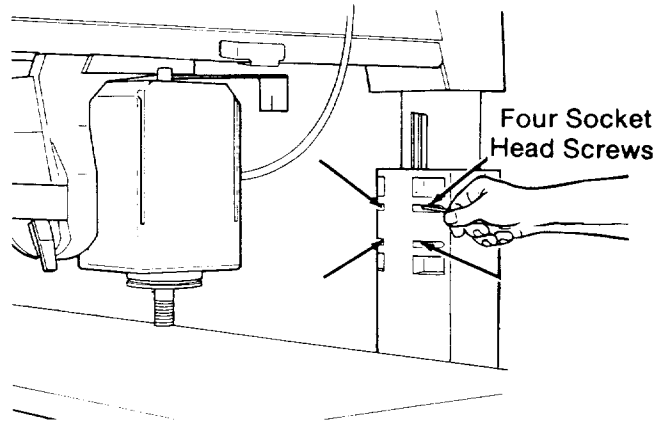

Fig. 96
1. Use a $3/16$ " hex "L" wrench to loosen the four screws in the front of the *column support*. (Figure 96)
3. If movement seems smooth and the *column* does not rock back and forth, use a $3/16$ allen wrench to retighten the four screws in the front of the column support. (Figure 96). Do not over tighten or it will be difficult to raise and lower the radial arm. After completing these steps go on to the next section, **or**